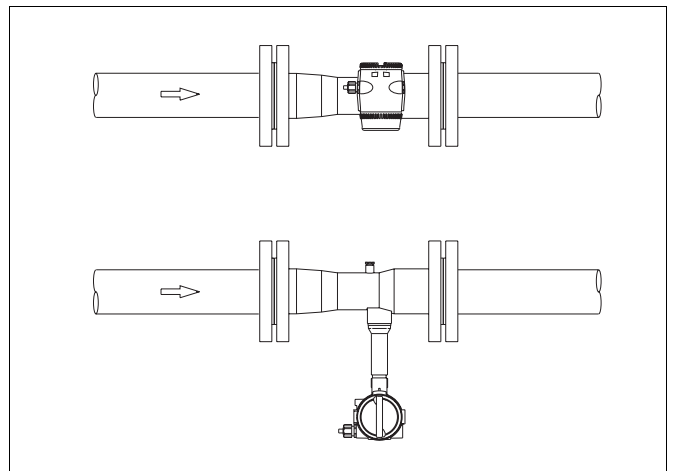

Fig. 24: Installation for High Fluid Temperatures
- In horizontal installations with fluid temperatures $> 150^\circ\text{C}$ see Fig. 24 for installation requirements.